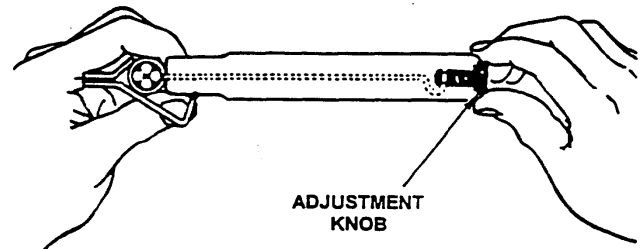

Figure 8. Blade Depth Adjustment
- Place wire on tool to gage cutting depth required, adjust blade depth to cutting depth required. See Figure 8.